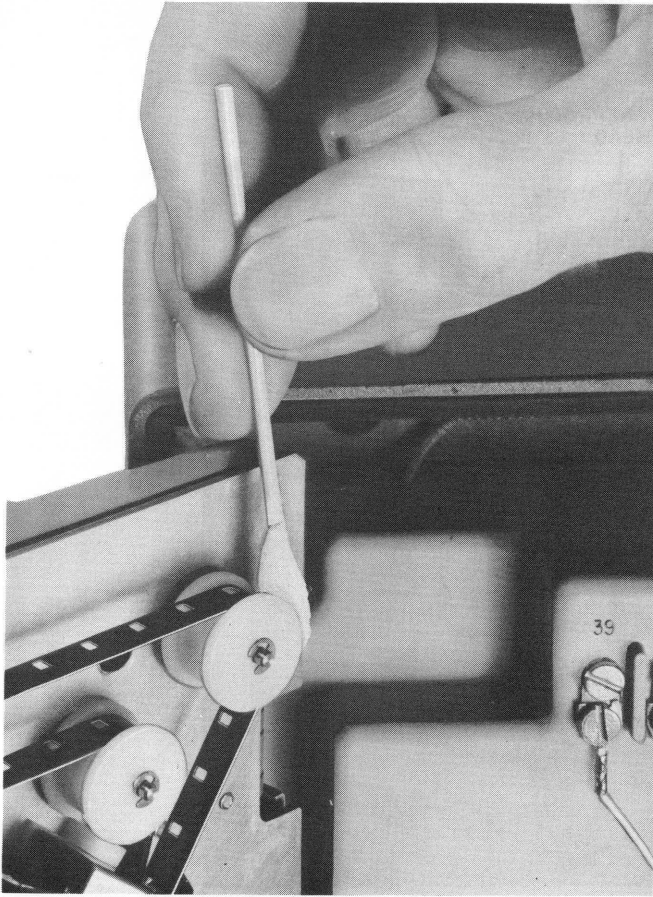

Fig. 11—Details of Cleaning Tape
- (b) Hold a dry, clean "Q-Tip" lightly against the tape as shown in Fig. 11. Momentarily move the RECORD-PLAY switch to the RECORD position, then back to the PLAY position. Move the "Q-Tip" back and forth across the dull face of the tape.